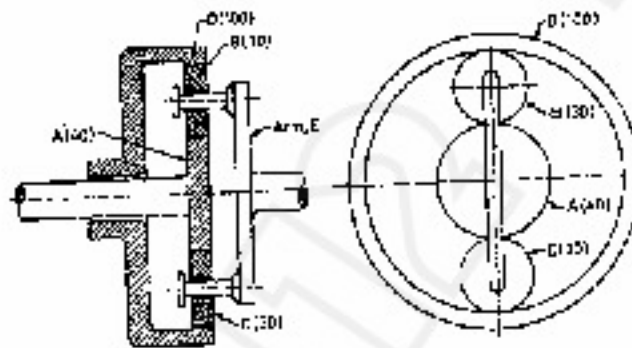

Figure 2.
- (b) Two planet gears B and C having 30 teeth each are attached to the arm E as shown in Figure 2 and gear A is having 40 teeth instead of 50, then find the number of revolutions made by the arm when: